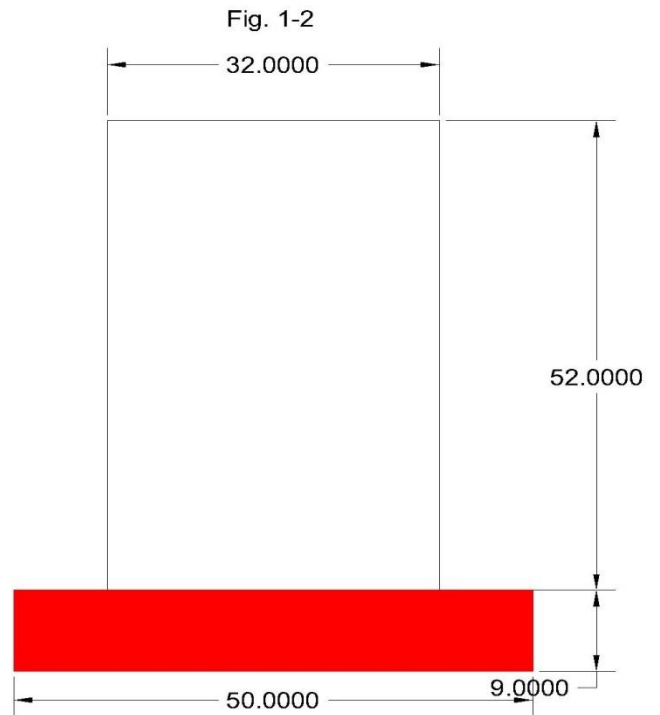

Fig. 1-3
- Using a single piece of self-adhesive flashing tape, make a sill pan with end dams (sides) that run up the rough framing jamb at least 6" and fold over on to the face of the rough opening and extend outward from the rough opening at least 2". (Figure 1-3 and 1-4)